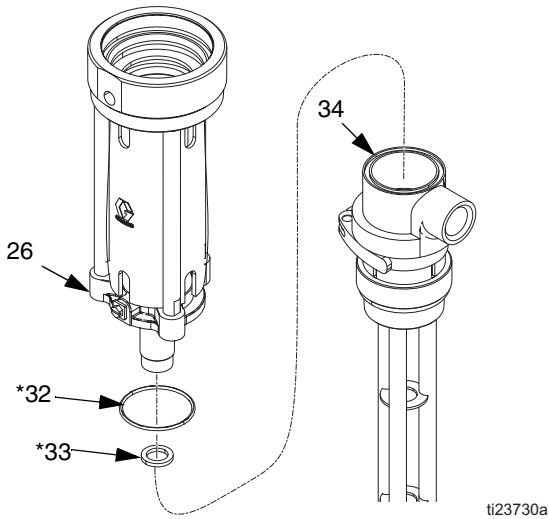

FIG. 23
11. Unscrew mounting flange (26) from pump body (34). Remove o-ring (32\*) and PTFE gasket (33\*) from pump body (34). Inspect all parts for damage. See FIG. 23.
**NOTE:** Align a bottom slot of the shield (75) and use pin tool (69) to loosen the hex nut/packings from the pump shaft.